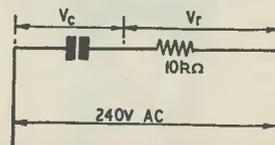

Fig. 2. Measuring capacitance by the voltmeter method
If it is desired to begin on a more modest scale, a 12in Goodmans Audiom 61 Bass can be employed with the amplifier shown in Fig. 2. This provides quite an acceptable output quality at a maximum power around 15 watts.
Fig. 2 illustrates the voltmeter method. In this case the capacitor is connected to a 240 volt 50 c/s supply through a 10k Ω non-inductive resistor.
* The formula for capacitance with the circuit of Fig. 2 and an applied a.c. of 50 c/s is $C = \frac{1,000,000 V_r}{314 V_c R} \mu\text{F}$. See M. J. Darby. "Direct Measurement of Capacitance and Inductance", page 767, May 1963 issue.—EDITOR.